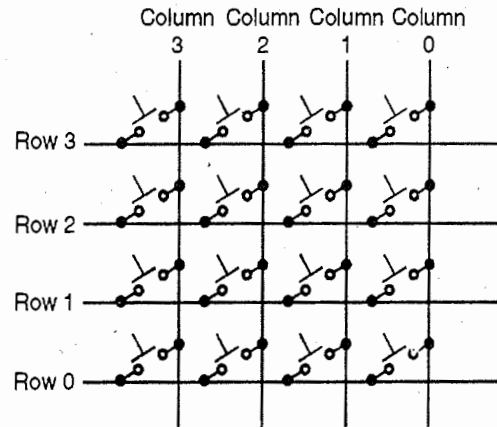

Fig. 10.4.1 : Matrix keyboard
- Fig. 10.4.1 shows 16 keys arranged in 4 rows and 4 columns. No connections are there, when the keys are open.